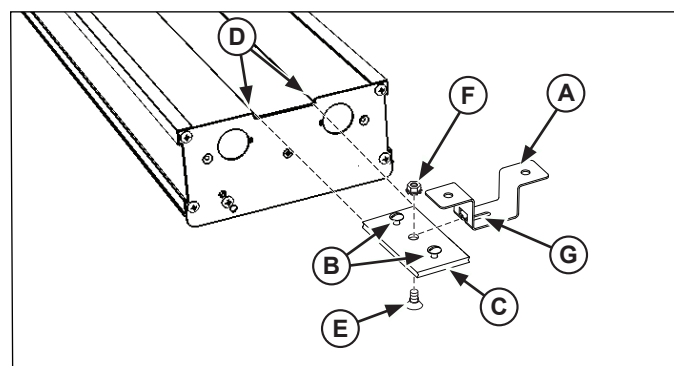

Figure 3. Installing Center Mount Brackets.
3. Mount the hanging bracket (A) with the "T" slot cutout, in the locations identified in step 1. Figure 3.